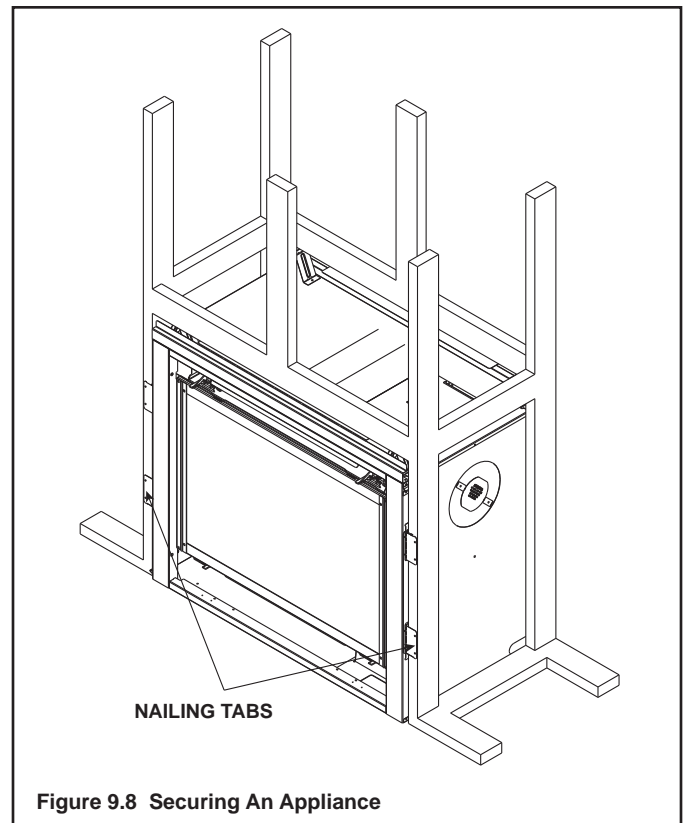

Figure 9.8 Securing An Appliance
**Figure 9.8** Attach the first vent section (it will snap into place). Slide the vent gasket onto the vent section and then, up against the appliance. Secure the vent gasket to the appliance with two self-tapping screws found in the manual bag. Note: The vent gasket can found in the manual bag.
The diagram shows how to properly position, level, and secure the appliance (see Figure 9.8). Nailing tabs are provided to secure the appliance to the framing members.